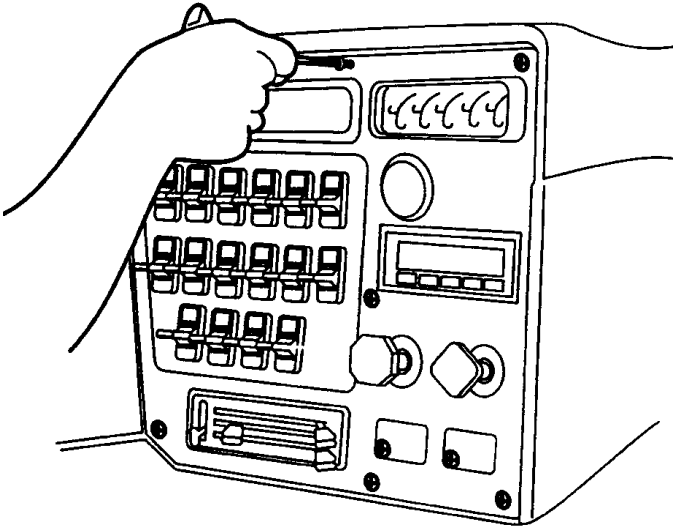
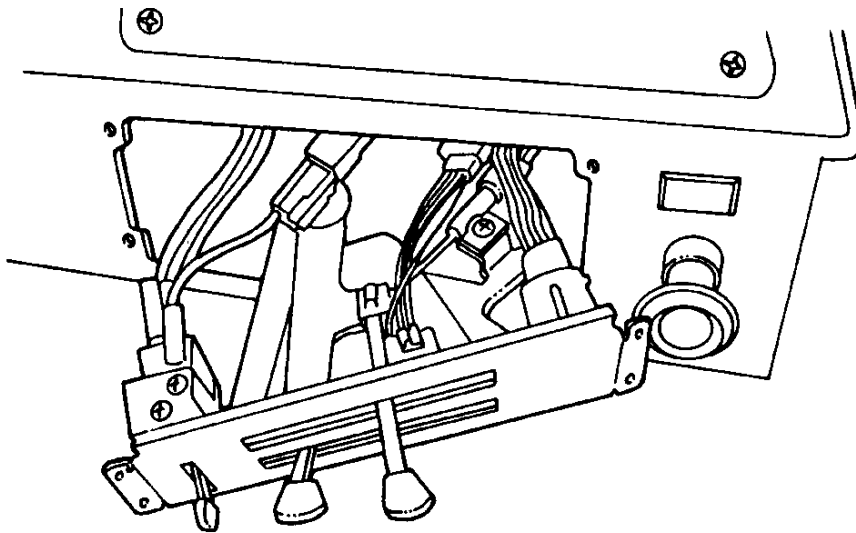

Figure 60 Dash Cover Panel Remove/Install (92/93/94/9900 Models)
Figure 61 Cab Control Assembly
Refer to Figure 60 and Figure 61.
1. On 92/93/94/9900 models only, remove screws from dash cover panel, and remove panel (Figure 60).
2. Remove four screws from cab control assembly (Figure 61) and carefully slide assembly out of dash.
4. On 92/93/94/9900 models only, install dash cover panel and secure with mounting screws removed previously (Figure 60).